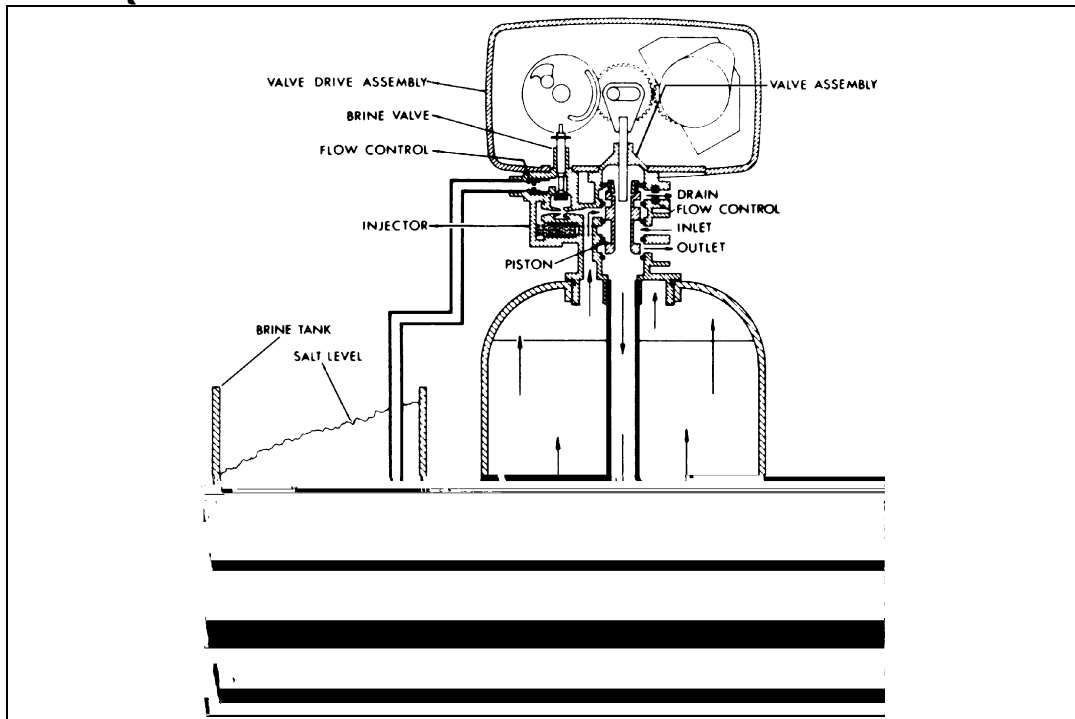

Figure 6: Backwash Position
- Same as Figure 6, page 11 with standard piston.